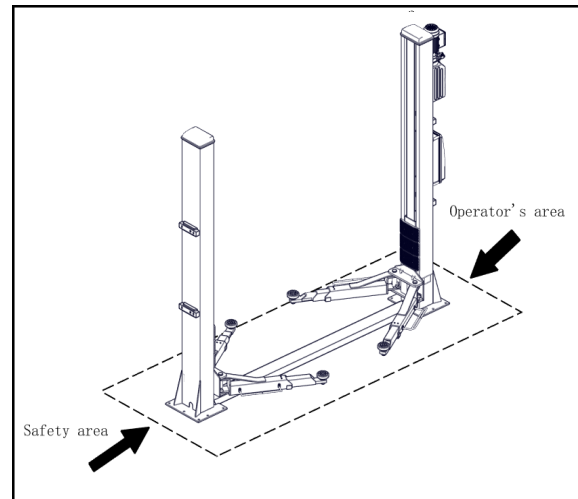

Fig. 8 Working Area
During lift and descent movements, the operator must remain in the command station as defined in figure 8. The presence of persons inside the danger zone indicated in the same figure is strictly prohibited. The presence of persons beneath the vehicle during operations is permitted only when the vehicle is parked in the elevated position.
- ◆ People rest inside the safety area while the vehicle raising. (Fig. 8)